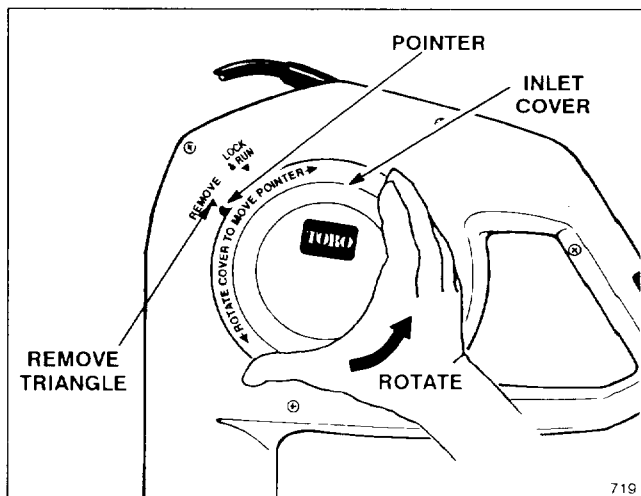

Figure 4
2. Rotate inlet cover counterclockwise with some extra force until you hear a "snap." The black pointer on inlet cover must line up with the "REMOVE" triangle on the housing (Fig. 4)